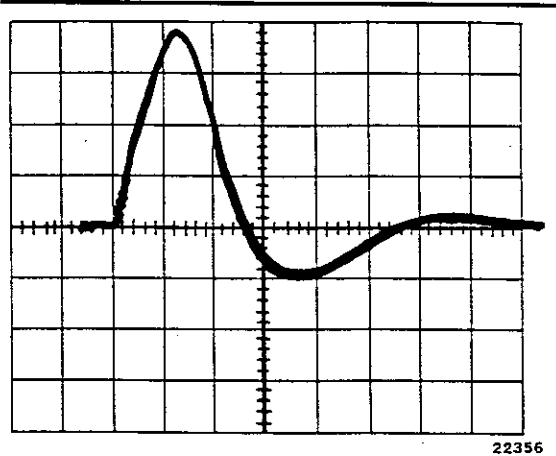
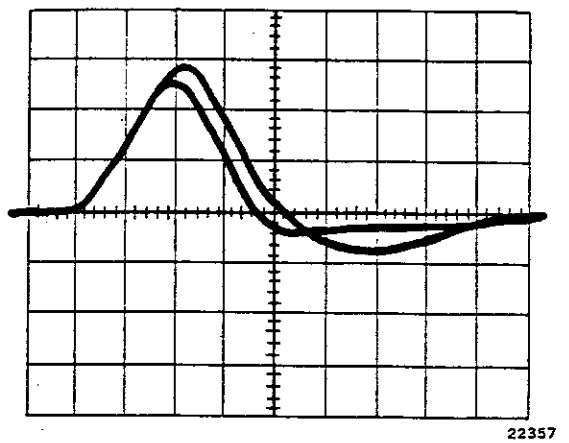

Fig. 9 - Oscilloscope Trace - Two Good Coils
Fig. 10 - Oscilloscope Trace - Normal Differences Between Two Good Coils from Two Different Stators
6. If a doubt still remains about which coil is shorted, or if there may be multiple shorts, any coil with an indicated short must be compared with a known good coil at 3500 volts. In some situations, the coils in one stator may have to be compared with coils of another stator. Fig. 9 shows two good (not shorted) coils compared for reference. Fig. 10 shows normal differences which may be noticed when testing a No. 4 main field coil with another coil from a different stator. Both coils are not shorted, but a thinner frame section behind the No. 4 (axle side) coil would account for this variation.